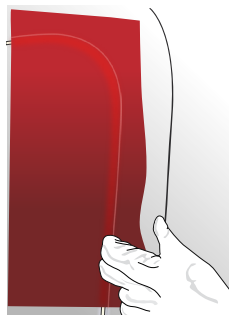

Figure 16
- ▶ Stretch the vinyl over the substrate so that it touches the raised surface. Then apply the film to the raised surface. (FIG. 16)